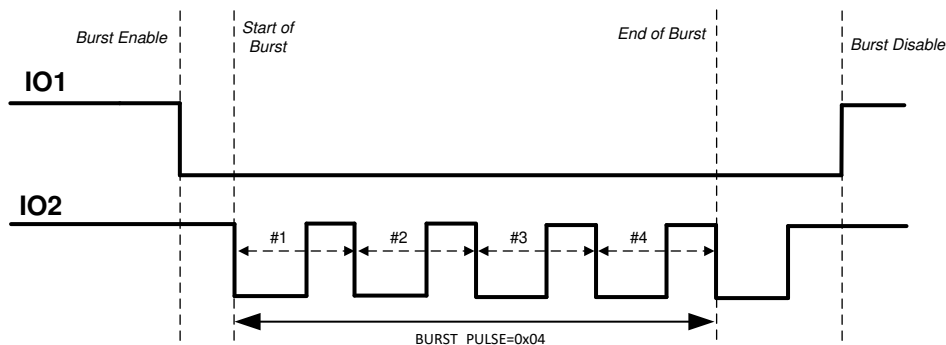

图 16. IO_MODE 1 Description
- IO_MODE = 1:** In this mode, the external clock for the transducer is applied at the IO2 pin and the burst mode is enabled when IO1 pin transitions low as shown in 图 16. The device then expects a clock at IO2 pin to generate pulses on the OUTA/OUTB pins. The start of burst happens from the first falling edge of IO2. The number of pulses are counted by counting falling edge to next falling edge transitions on IO2 once the start of burst is triggered. End of burst sequence is signaled when the number of pulses defined in BURST_PULSE are sent or IO1 transitions high, whichever occurs earlier. TI recommends that IO2 is held high before start of burst to count the number of pulse correctly. After the start of burst, the state of OUTA and OUTB pins are determined by IO1 and IO2 pins as shown in 表 22. A transition of IO1 from low to high to low again is required to initiate a new burst sequence.